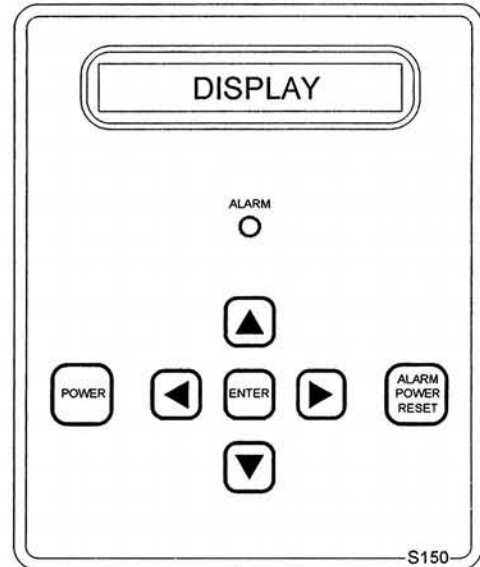

Figure 1
1) Refer to Figure 1 for the location of the keys used to display or change the set points and the Electrical Schematic for the location of the write protect jumper, J3. For the unit to be able to accept a change in a set point, the shorting jumper must be in the off position(center and left pins).